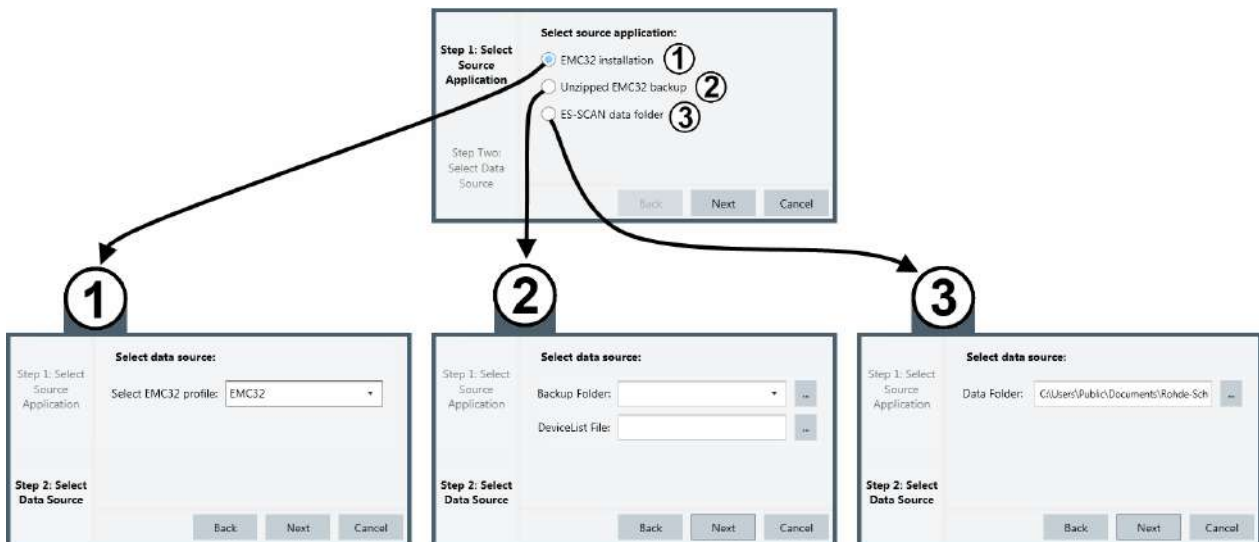

Figure 2-6: Source selection dialog (Step One & Step Two) of the XML data converter
In "Step One" of the source selection (upper dialog window in Figure 2-6), specify the type of source application.
In "Step Two" of the source selection (lower dialog windows in Figure 2-6), select the folders or data files.
- Case (1) in Figure 2-6: If the source application is an "EMC32 installation", select "EMC32" and click "Next".
- Case (2) in Figure 2-6: If the source application is an "Unzipped EMC32 backup", first extract the folders from the ZIP file that was created during the R&S EMC32 backup. Then select the backup folder (for example `C:\ProgramData\EMC32\Data\Backup\Unzipped`) and the device list file (for example `C:\ProgramData\EMC32\Configuration\EMC32.DeviceList`). Click "Next".
- Case (3) in Figure 2-6: If the source application is an "ES-SCAN data folder", select a folder that contains data generated by R&S ES-SCAN. Then click "Next".